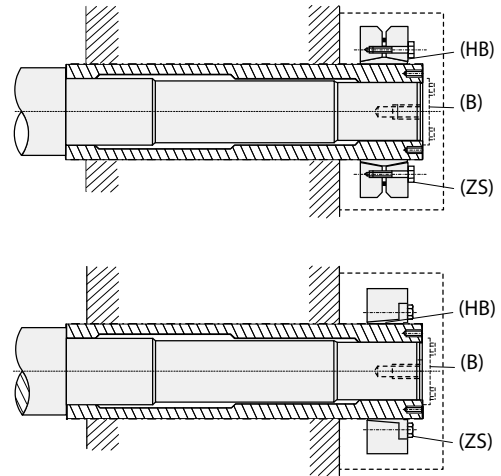

Fig. 11 Full Mounted Position
The shrink disc has a keyless, shrink fit mechanism that shrinks the hub (HB) mechanically through the tightening locking bolt (ZS), and holds shaft and hub as one fixture (Fig. 11).
- (1) Clean and degrease contact surfaces (a) and (c).
- (2) Smear surface (c) and (ZS) with "Molykote 321" or its equivalent. However, keep surface (a) as clean as possible (no grease).
- (3) Slide O-ring (b) onto the shaft. (only 9090 - 9115)
- (4) Mount the reducer on the driven shaft and screw nut (e) until faces (g) and (h) make contact.
- (5) Set the shrink disc (k) at dimensions (LV). Tighten locking bolt (ZS) to specified torque (TA) (using a torque wrench). Make sure that both plates are parallel when tightening bolts. After confirming that the shrink disc is set correctly, tighten the bolts with a wrench of appropriate length. Uniformly, tighten bolts clockwise (not diagonally) while keeping both plates parallel. It is recommended to tighten respective bolts by 30 degree each time.
Notes: a. In case of a vertical type unit, mount a thrust washer (B) to prevent the reducer from moving when locking nut (ZS) is loosened (Fig. 11).
b. A high-tension bolt (JIS/ISO/ASTM strength 10.9 or 12.9) is used as a locking bolt (ZS). When replacing it, use one specified by the manufacturer.